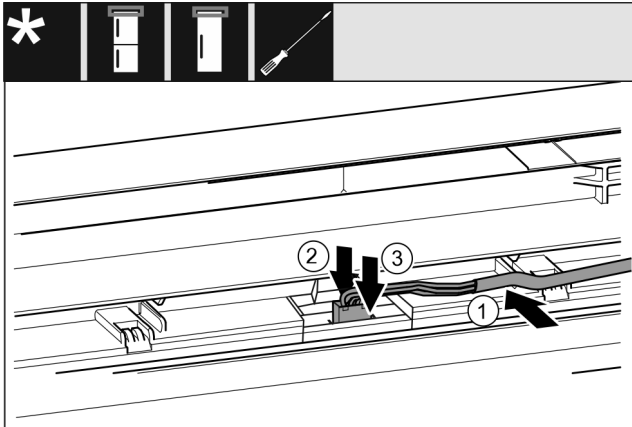

Fig. 39 Fridge/freezer combinations / freezers / refrigerators
- ▶ Insert the cable *Fig. 39 (1)* into the guide in the top door.
- ▶ Push the latching tab *Fig. 39 (2)* backwards.
- ▶ Engage the plug *Fig. 39 (3)*.